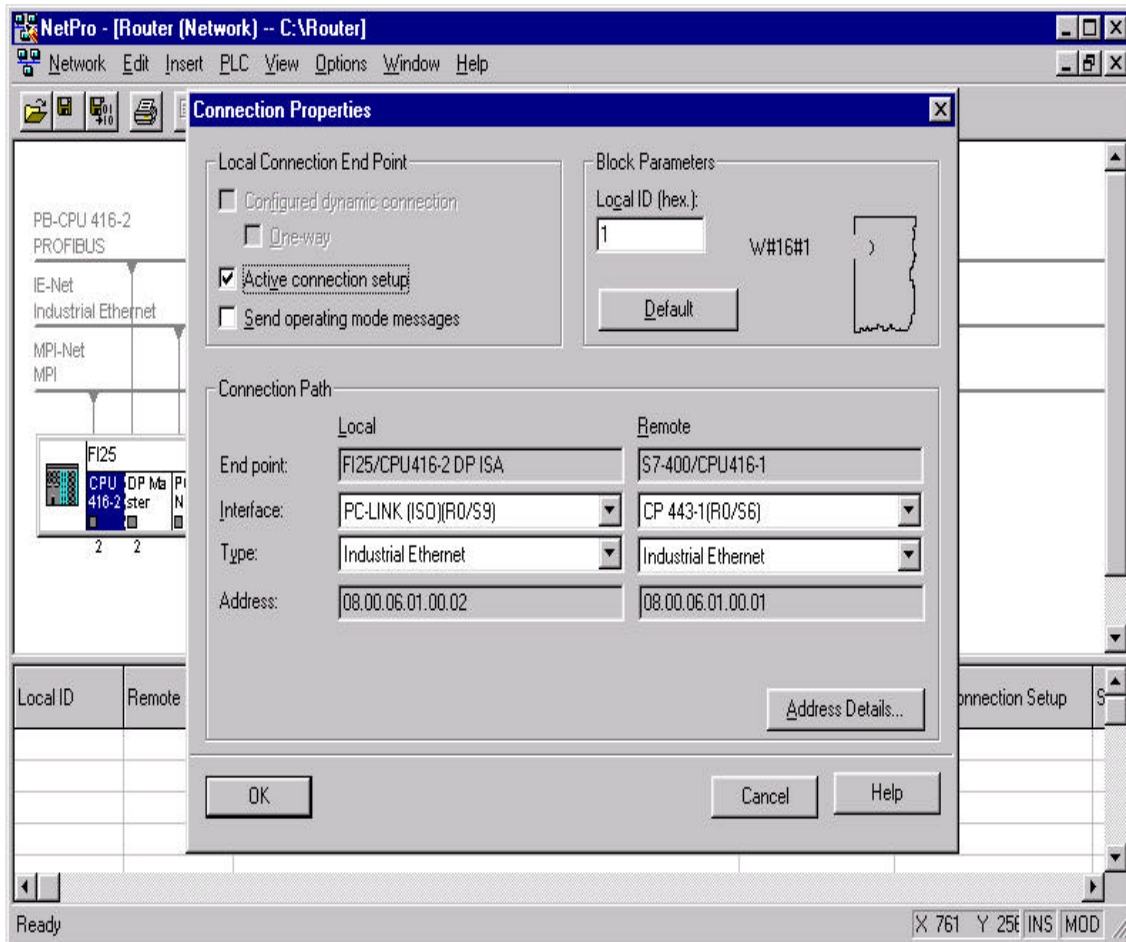

Figure 2-9 Connection Properties
6. Confirm by clicking on "OK". The "Properties Connection" dialog box is opened, Figure 2-9.
7. Check the settings (interface and type) in Figure 2-9.